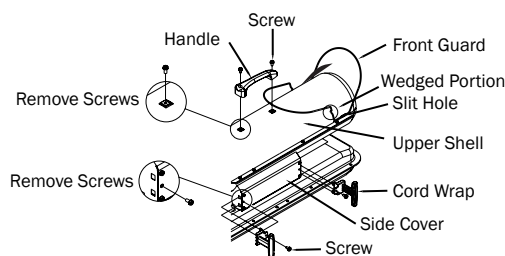

Figure 4 - Handle and Cord Wrap Installation CP075EK
3. Align the holes in upper housing with two mounting holes on the handle as shown in Figure 4.
5. Insert cord wrap into the rectangle holes on the supporter and align the hole on the cord wrap with the mounting hole on the side covers shown in Figure 4.